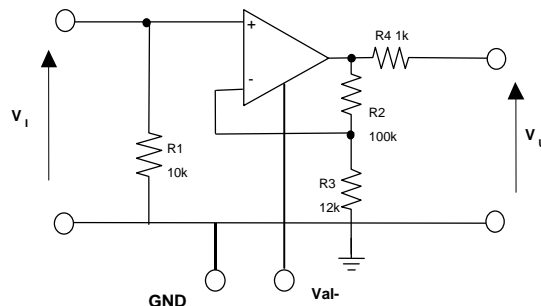

Figure 10: Internal scheme of the non-inverting amplifier
- a) Evaluate the two-port equivalent circuit parameters for the non inverting amplifier described in Fig. 10 and the inverting amplifier described in Fig. 11.